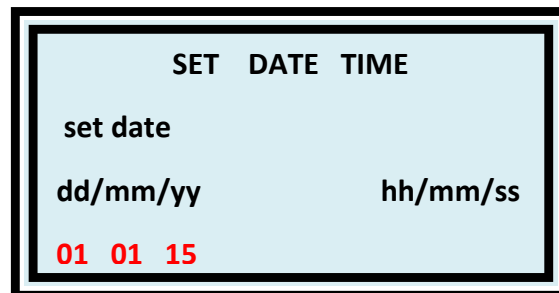

Fig.17 Setting Date
6.1 Press “ESC “ button and “ TIMER “ button together display will show as Fig.17